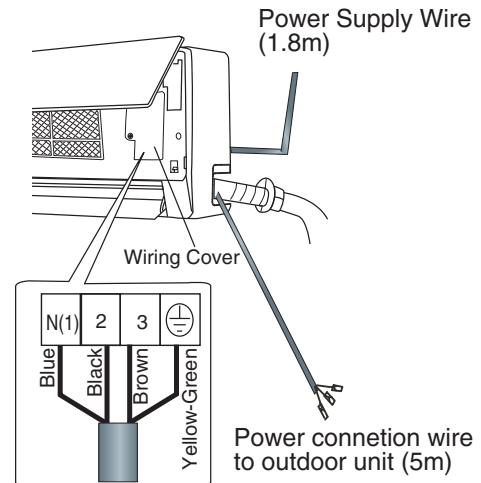

Fig.15a (Cooling Only Model)
1. The power wire and power connection wire are supplied in factory in a fixed length. (Fig.15a, 15b)
2. Open the surface panel and remove the wiring cover. (Fig.15a, 15b)